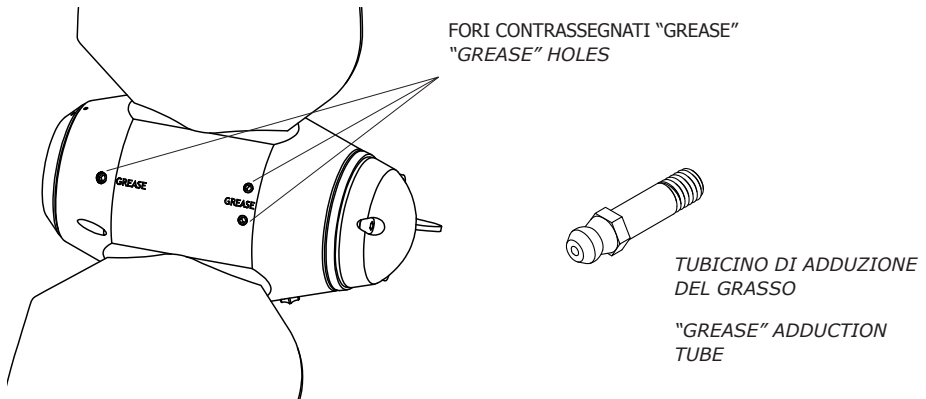

fig. 3
- c. Fill the propeller body completely with fluid grease through the designated holes marked "grease" (see fig. 3).